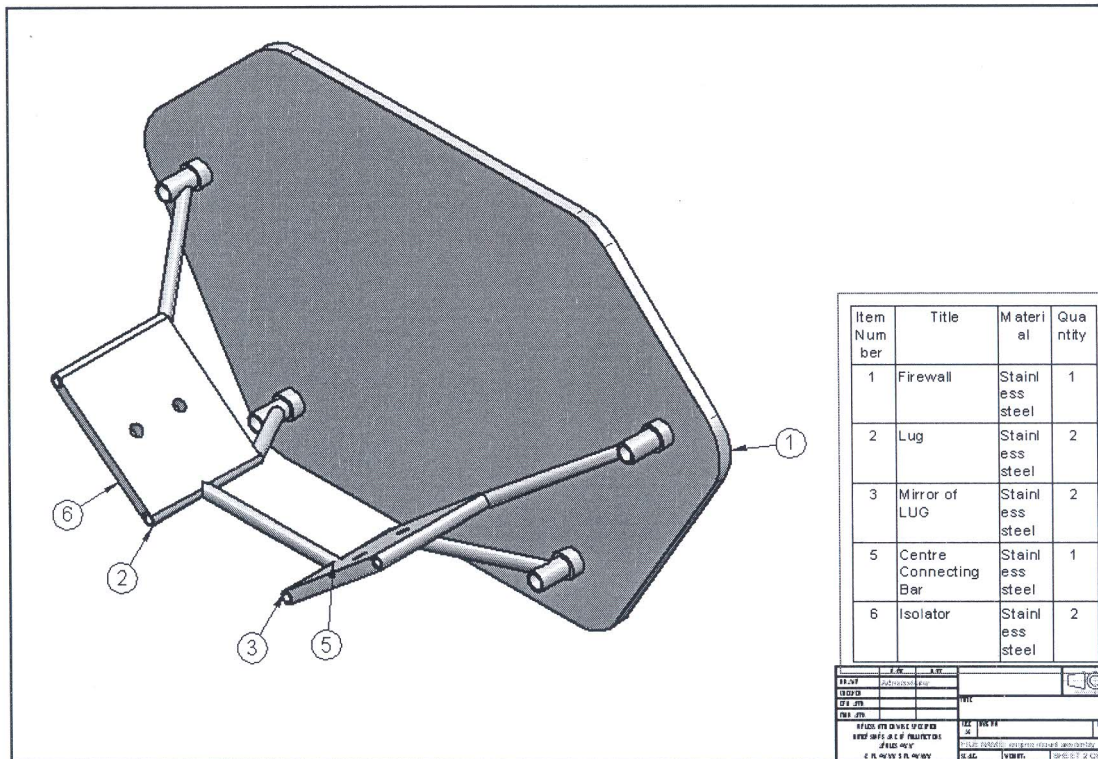

Fig. 1
5. The details of an ENGINE MOUNT ASSEMBLY are shown in Fig. 1. Draw the following views of the assembly